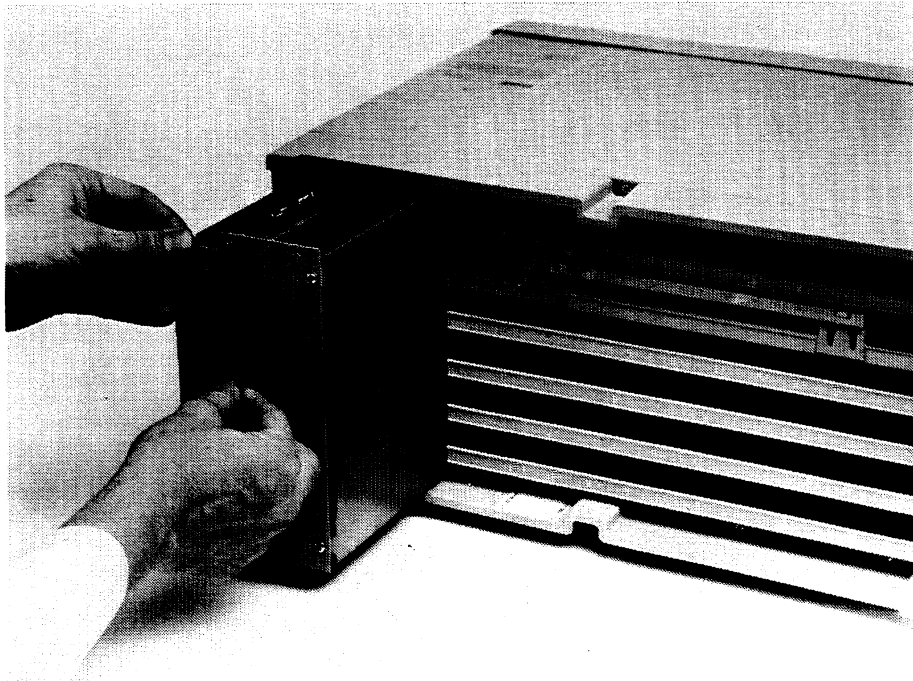

Figure 7-2. Removing the Computer Interface Module
4. See Figure 7-2. Slide the Module out by grasping the finger indentation in the fan filter hole and slide it straight back and out.